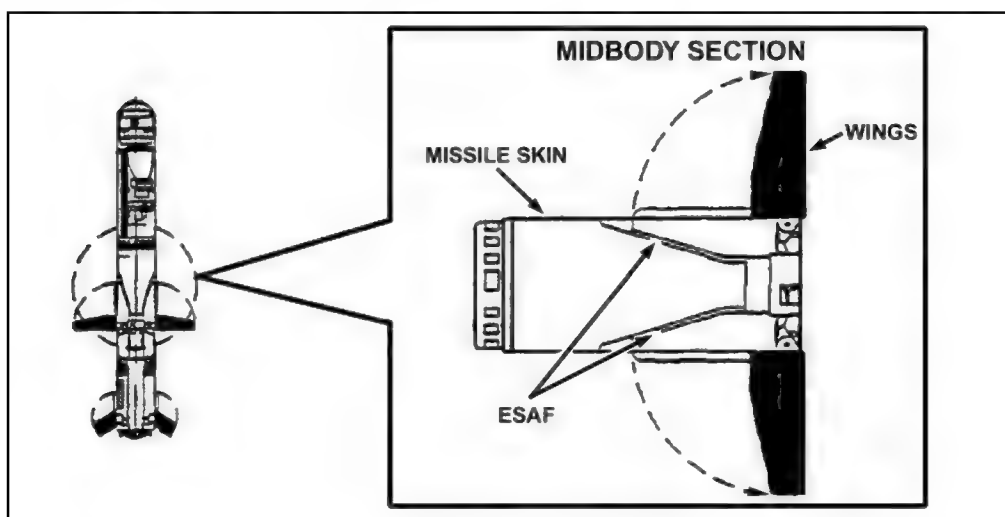

Figure 1-22. Mid-body section.
b. **Mid-Body Section.** The mid-body section includes the missile skin, electronic safe arm and fire unit (ESAF), wings, and the main charge of the warhead (Figure 1-22).